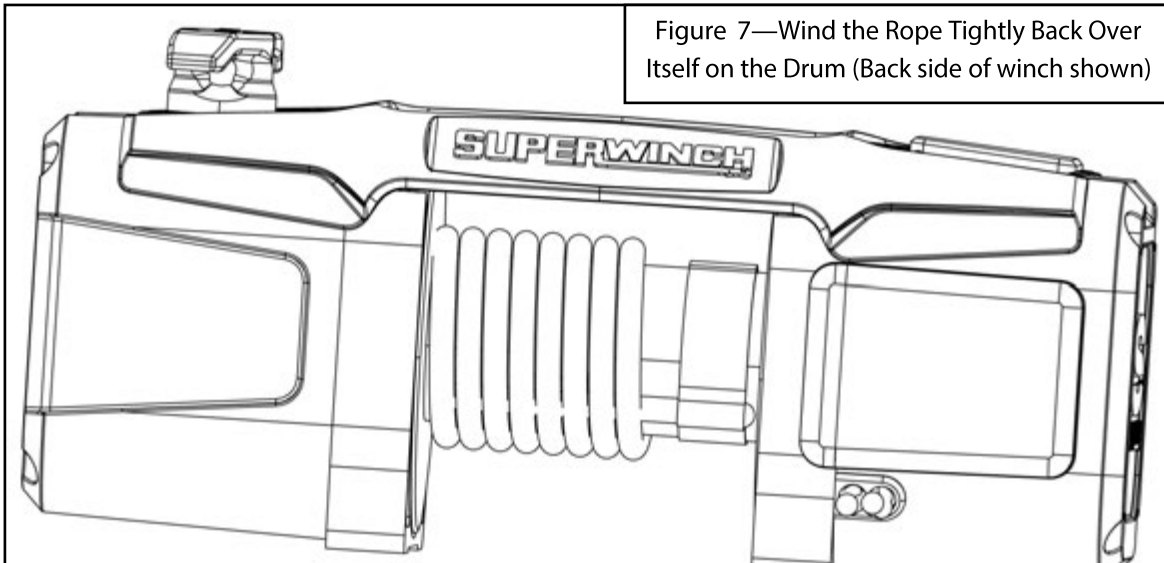

Figure 7—Wind the Rope Tightly Back Over Itself on the Drum (Back side of winch shown)
12. Once the first few wraps of rope have been underwound onto the drum spool the rest of the rope onto the drum under load to ensure that the rope is tight to the drum. This can be accomplished by hooking the rope to an anchor point then winching in with the vehicle in neutral and light pressure on the vehicle's brake. See **Figure 7**.